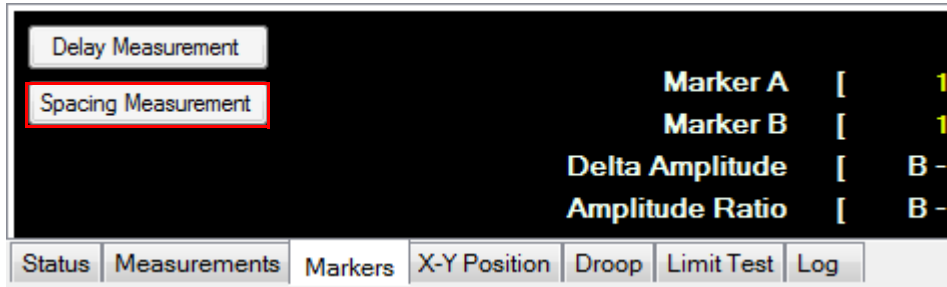

Figure 2-121 Spacing Measurement button in the Marker view
- 1 Select **Spacing Measurement** in the Marker view as shown in Figure 2-121.